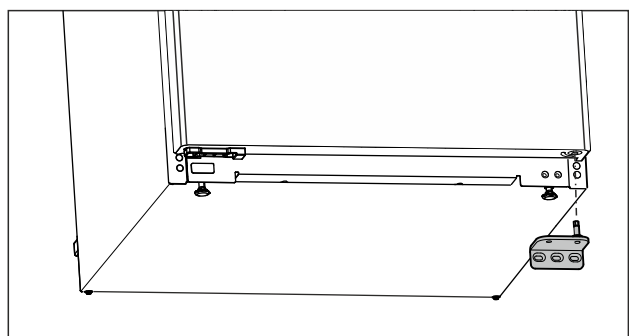

Fig. 11
- ▶ Remove the swap bearing block downwards. (see Fig. 11)